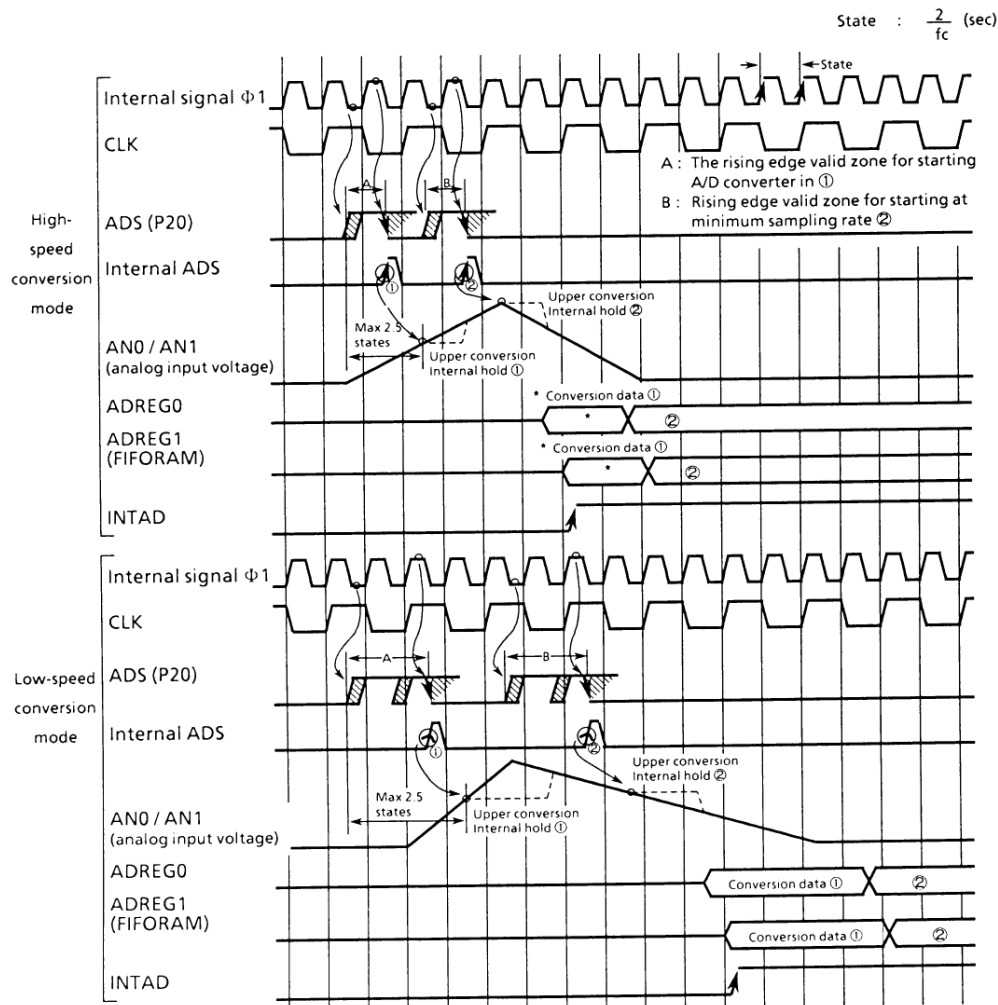

Figure 3.8 (3). External Start Conversion Timing
Note: The external start signal ADS is sensed with level in the 1/2 state zone from rising/falling edge of the CLK signal ( $\phi 1$  zone in Figure 3.8 (3)).